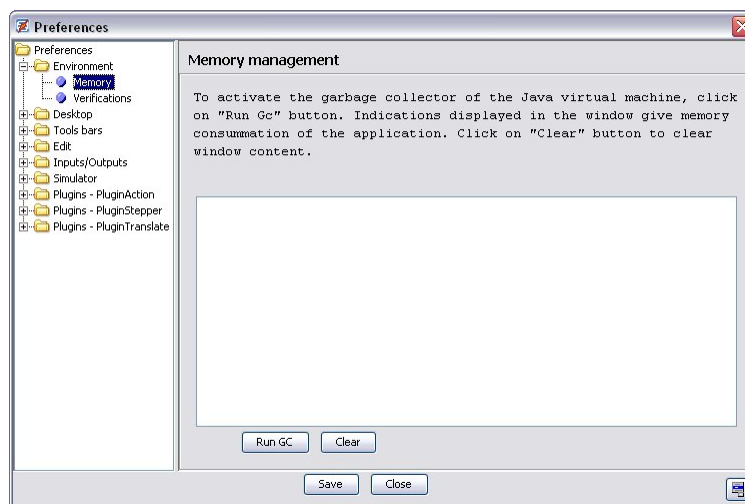

Figure 92 : Memory management
- ✎ Sub-rubric Memory (Figure 92) is for maintenance only.